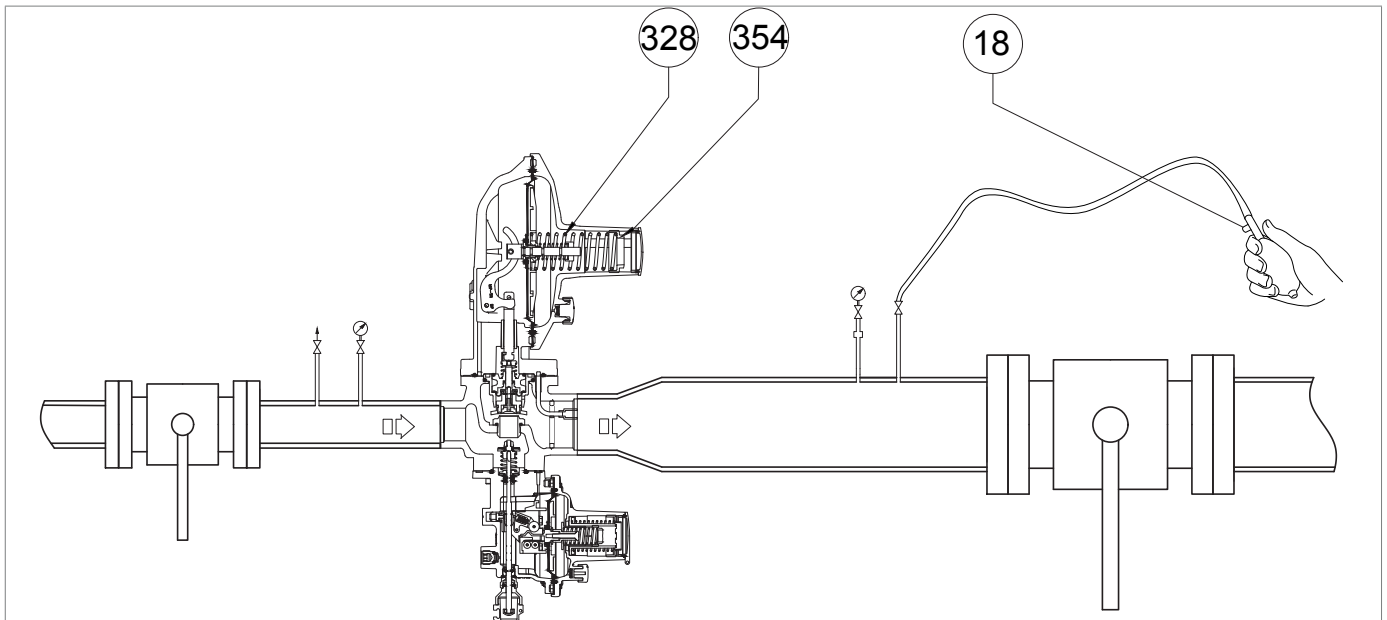
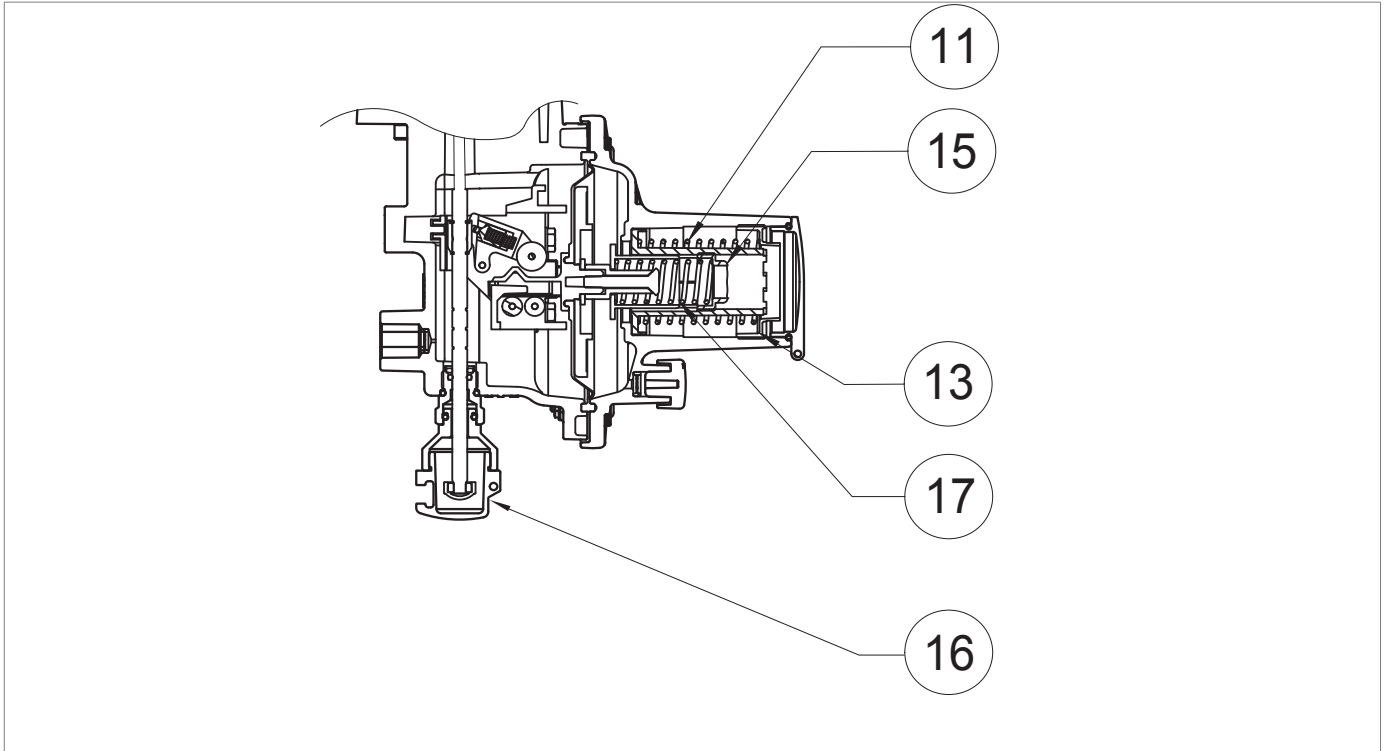
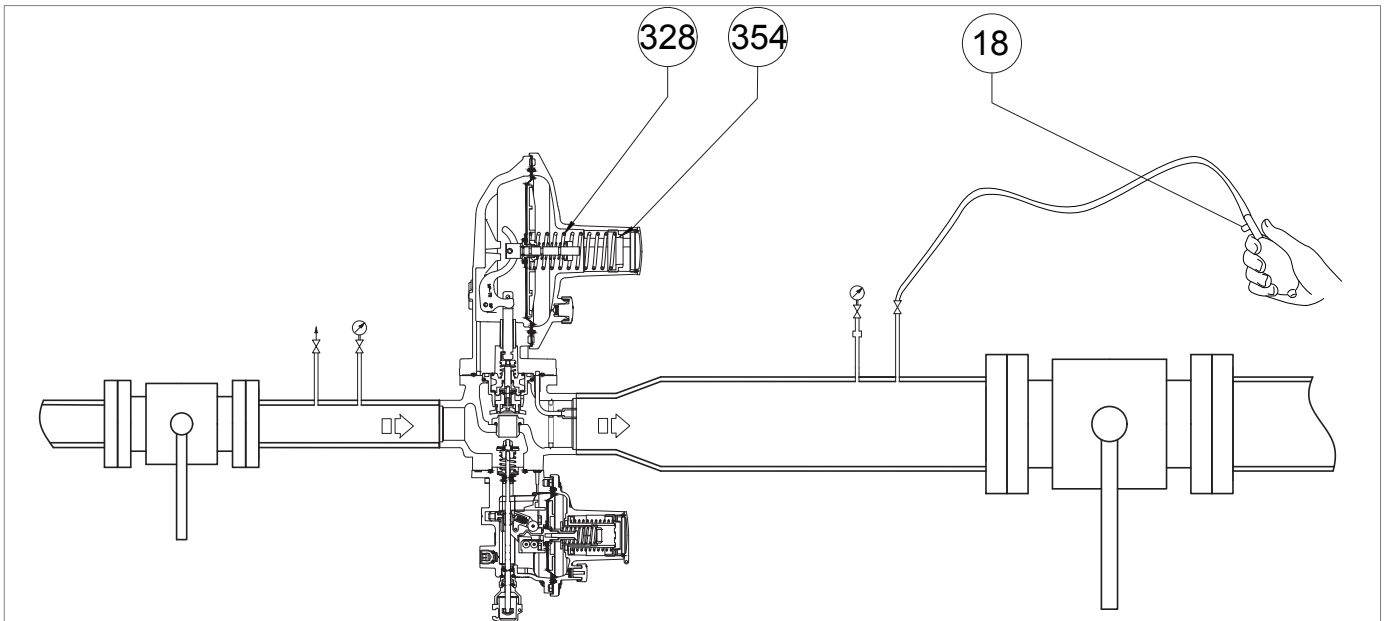

Fig. 8.22. Pressurising with external source for incorporated LA slam-shut valve
Fig. 8.20. Calibration of pressure switch for LA slam-shut valve
Fig. 8.21. Pressurising with external source for incorporated LA slam-shut valve
1	<p>Increase the downstream pressure to the tripping value of the slam-shut valve, connecting an external pressure source to the bleed cock (Fig. 8.20, ref. 6) placed on the downstream pipe, making sure to open an additional bleed cock (Fig. 8.22, ref. 18).</p> <div style="border: 1px solid black; padding: 5px;"> <p> NOTICE!</p> <p>Check the pressure referring to the downstream pressure gauge (Fig. 8.20, ref. 5).</p> <p>If the slam-shut valve:</p> <ul style="list-style-type: none"> • trips before the expected pressure value: screw in (clockwise) the adjustment ring nut (13) so as to further compress the spring (11); • does not trip at the expected pressure value: unscrew (anti-clockwise) the adjustment ring nut (13) so as to relieve the spring (11). </div>
2	Decrease the pressure of the downstream section by opening the additional bleed cock (Fig. 8.22, ref. 18) to bring it up to the calibration value of the main regulator.
3	Close the additional bleed cock (Fig. 8.22, ref. 18).
6	Disconnect the external pressure source from the bleed cock (Fig. 8.20, ref. 6).
1	Partially open the bleed cock (Fig. 8.20, ref. 6) to the atmosphere and keep it open for the next steps.
2	Turn the adjustment ring nut (Fig. 8.20, ref. 3) of the regulator anti-clockwise to decrease the downstream pressure (Pd) to the minimum pressure required for tripping of the slam-shut valve.
3	<p>If necessary, remove the closing cap (Fig. 8.22, ref. 354) together with the adjustment ring nut and remove the regulation spring (Fig. 8.22, ref. 328).</p> <div style="border: 1px solid blue; padding: 5px;"> <p>! NOTICE!</p> <p>Check the tripping pressure value of the slam-shut valve indicated on the downstream pressure gauge (Fig. 8.20, ref. 5).</p> </div>
4	<p>If the slam-shut valve:</p> <ul style="list-style-type: none"> trips before the expected pressure value, unscrew (anticlockwise) the adjustment ring nut (Fig. 8.21, ref. 15), to relieve the spring (Fig. 8.21, ref. 17); does not trip at the expected pressure value, screw in (clockwise) the adjustment ring nut (Fig. 8.21, ref. 15) to further compress the spring (Fig. 8.21, ref. 17).
5	<p>After having checked that the slam-shut valve trips at the preset value, proceed as follows:</p> <ol style="list-style-type: none"> Close the air vent valve (Fig. 8.20, ref. 6) Position the regulation spring (fig. 8.21, ref. 328), the end cap (Fig. 8.22, ref. 354), the adjustment ring nut (Fig. 8.20, ref. 3) Slowly open the upstream shut-off valve (V1) until the downstream pressure value (Pd) reaches the calibration value of the regulator, referring to the downstream pressure gauge (Fig. 8.20, ref. 5) Close the upstream shut-off valve (V1) Slowly and partially open the air vent valve (Fig. 8.20, ref. 6) to decrease the downstream pressure referring to the downstream pressure gauge (Fig. 8.20, ref. 5) until it reaches the minimum pressure tripping value Check the minimum pressure spring for proper calibration by repeating steps 2-3-4 at least three times Calibrate the main regulator referring to par. "8.5 - Regulator commissioning procedure"
7	Turn the adjustment ring nut clockwise (Fig. 8.20, ref. 3) to increase the downstream pressure to the regulator's setpoint.
9	Close the bleed cock (Fig. 8.20, ref. 6).